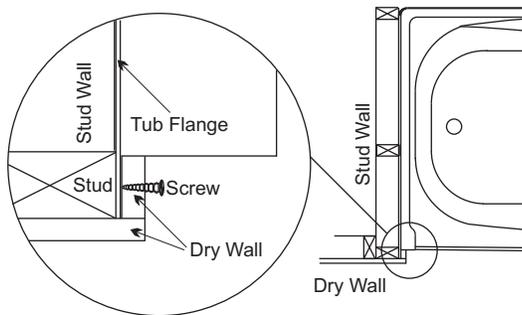

FIGURE 7: TOP VIEW SHOWING DRY WALL FINISHING
- Figure 7 shows the detailed Top view for dry wall installation.